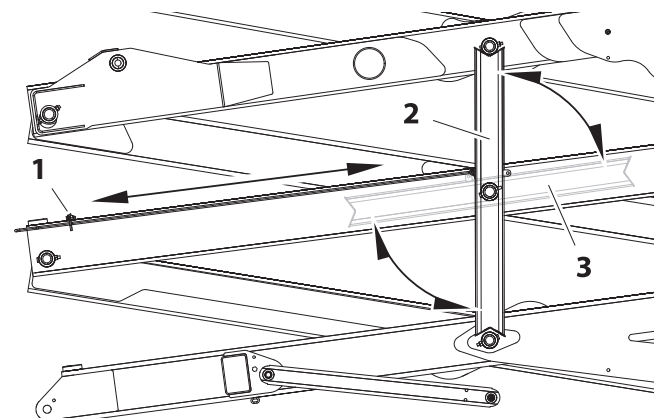

Figure 2-1. Scissor Arm - Safety Prop Assembly
- To engage the safety props, raise the unloaded platform high enough to allow the safety props to rotate vertically into position. (See Figure 2-1.)